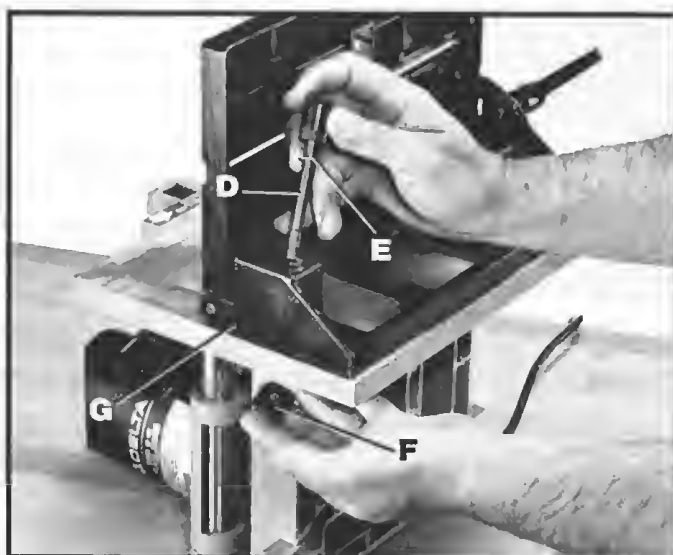

Fig. 4
5. Place flat washer (E) Fig. 4, on shaft assembly (D) and insert threaded portion of shaft assembly (D) through holes in table and fence, as shown.
6. Place square nut (F) Fig. 4, in position in channel in back of fence (G) and thread shaft assembly (D) into nut (F). **NOTE: ROUNDED SIDE OF NUT (F) SHOULD BE AGAINST FENCE AND FLAT SIDE OF NUT (F) SHOULD BE TOWARD THE OUTSIDE.**